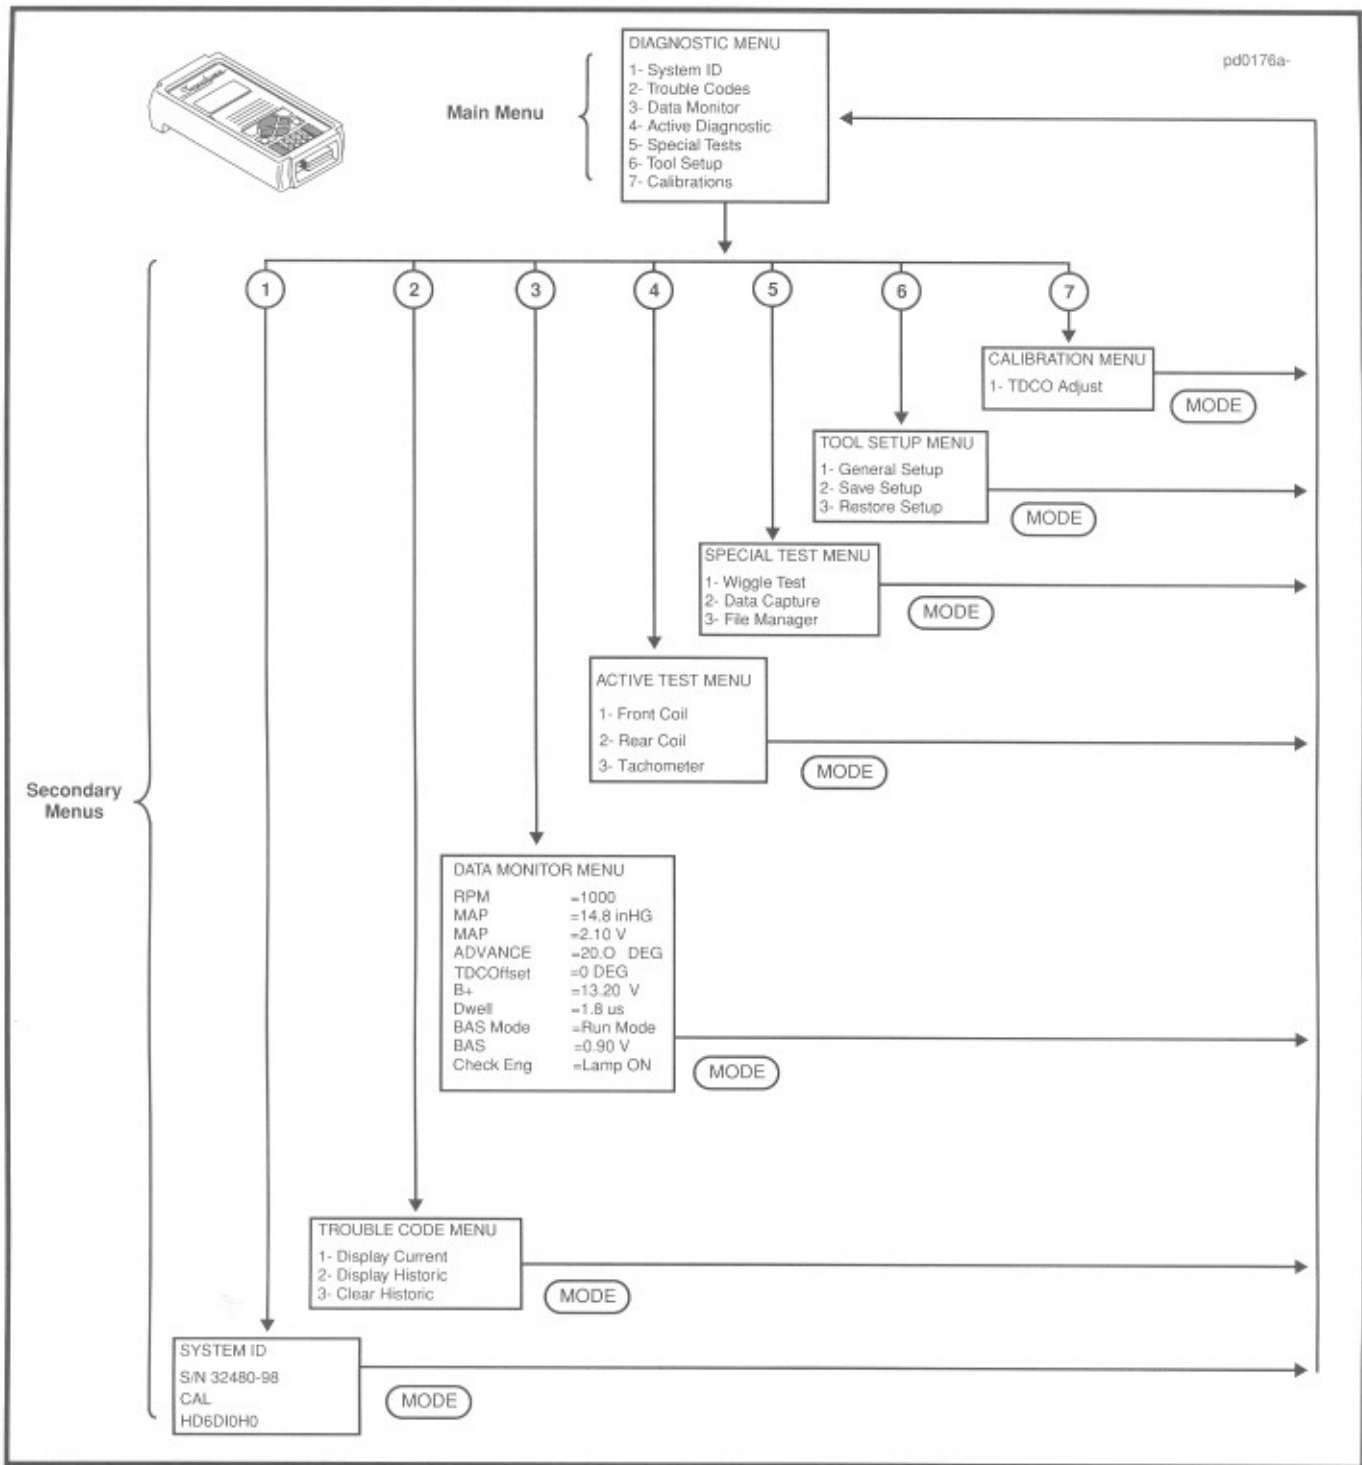

Figure 7-12. Scanalyzer Menu Selections
6. Insert the diagnostic application cartridge HD-41325-95A, into the Scanalyzer. During the next few seconds, the Scanalyzer sequences through a series of screens that reflect a power-on self test, the system copyright, and then an attempt at communications with the ignition module. Once communications is established with the ignition module, the Diagnostic Menu appears. See Figure 7-12.